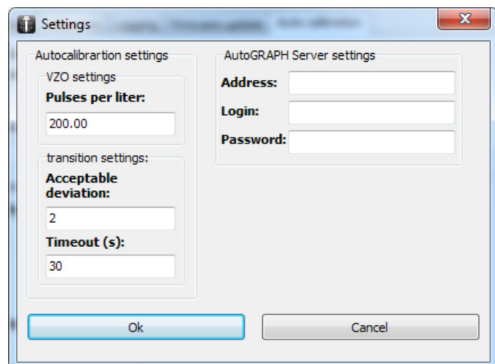

Fig.17. Calibration settings.
- In the Settings menu (Fig.17), set up the flowmeter parameters – a number of pulses accounted for 1 litre of fuel. This characteristic is given in technical documentation on the flowmeter;